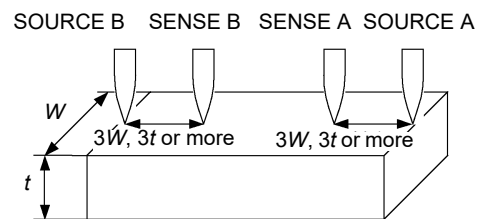

Fig. 7. Probe positions on wider/thicker measurement target
It is known that such effects can be minimized by detecting the voltage within the space between the current contact points. Generally, if the probes are inside by a margin that is at least three times the measurement target's width (W) or thickness (t), current distribution may be considered uniform. As shown in Fig. 7, SENSE leads should be 3W or 3t mm or more inside from the SOURCE leads.